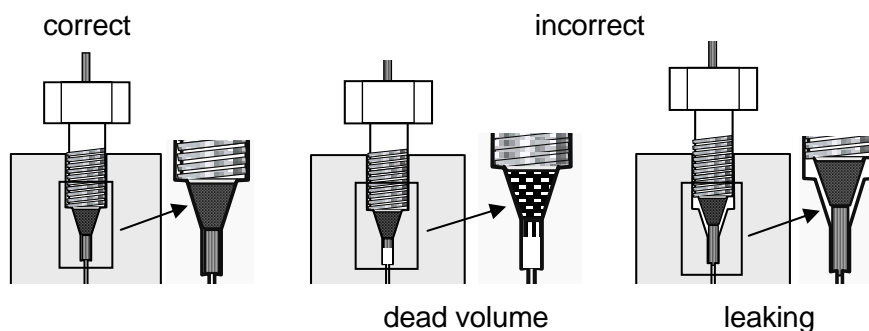

Fig. 8 Seating of capillary connectors
4. Tighten the bushing by hand while pushing the capillary towards the port (Fig. 8).